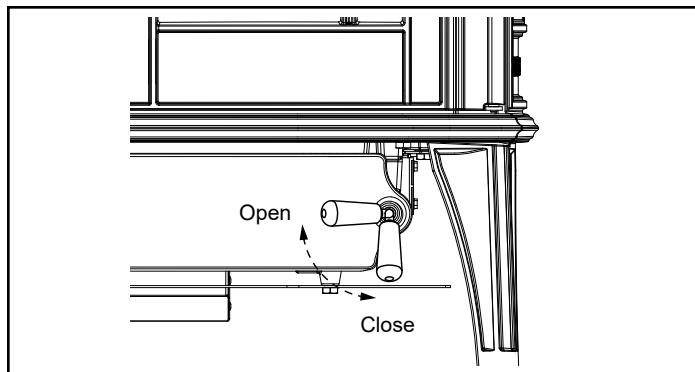

Figure 2.8- Turn the ashdoor handle clockwise to open and counterclockwise to close.
- Close the griddle or doors, and unlatch the ash door, Figure 2.8. It will pivot, swinging the ash pan out of the stove.